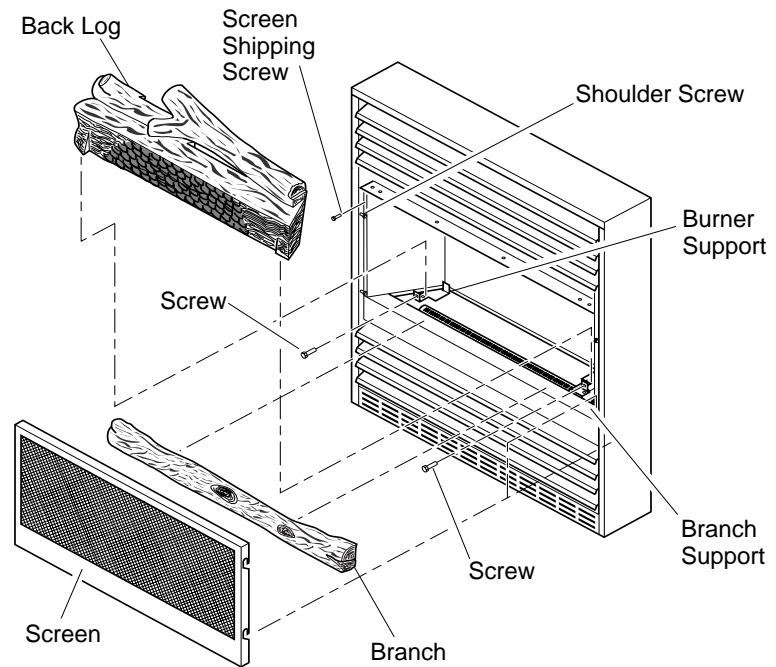

Figure 2 - Assembling Fireplace
2. Remove two shipping screws above screen (see Figure 2).
5. Gently place back log on burner support (see Figure 2). The log should fit flat against top of burner support. Place two #10 one-inch-long screws through burner support into the log and tighten.
6. Place branch on branch support (see Figure 2). Do not allow branch to contact flame. If flame contacts branch, soot will be created.